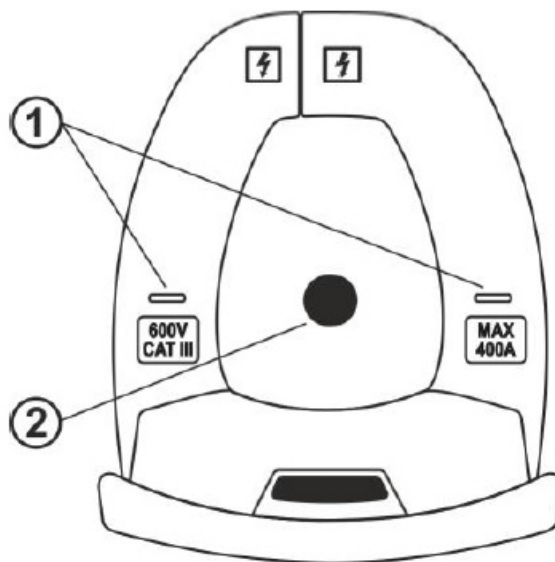

Fig. 2: Alignment marks
- Put the conductor within the jaws on intersection of the indicated marks as much as possible (see Fig. 2) to meet the meter accuracy specifications